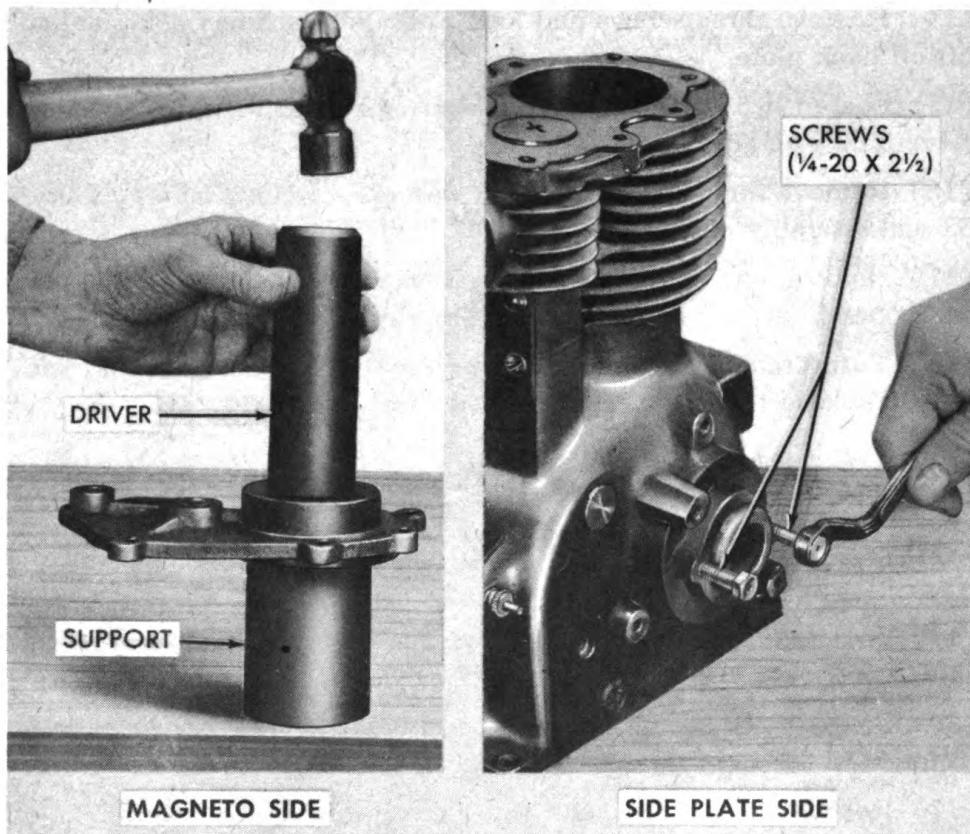

Figure 30—Main Bearing Cup Removal
- (1) Inspect the bearings for scoring, chipping, brinelling, rough spots, overheating, etc. Replace any parts found defective.
- (2) To replace bearing cones, mount crankshaft in a vice equipped with soft jaws, then use a suitable puller and remove bearing cones.
- (3) To remove bearing cup, magneto side, remove two headless screws, and install two $\frac{1}{4}$ -20 x $2\frac{1}{2}$ inch cap screws as shown in figure 30. Turn these screws in alternately and evenly forcing bearing cup and oil seal plate from bearing recess in bloc.
- (4) To remove bearing cup from side plate, support the side plate near bearing cup as shown in figure 30 to prevent breaking or distorting side plate. Use a suitable driver to remove bearing cup.
- (5) Support side plate as near bearing bore as possible and press a new bearing cup into place, being sure it is against shoulder of bearing bore.
- (6) Install a new oil seal deflector in bearing bore, magneto side. Support the bloc as near bearing bore as possible and press a new bearing cup into place being sure deflector and cup are seated against shoulder of bearing bore.